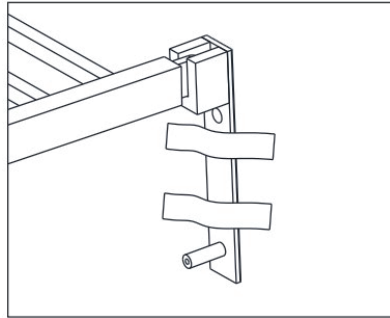

Figure 3
3. Affix the secondary stickers on the wall plug to fix it. Show as Figure 3